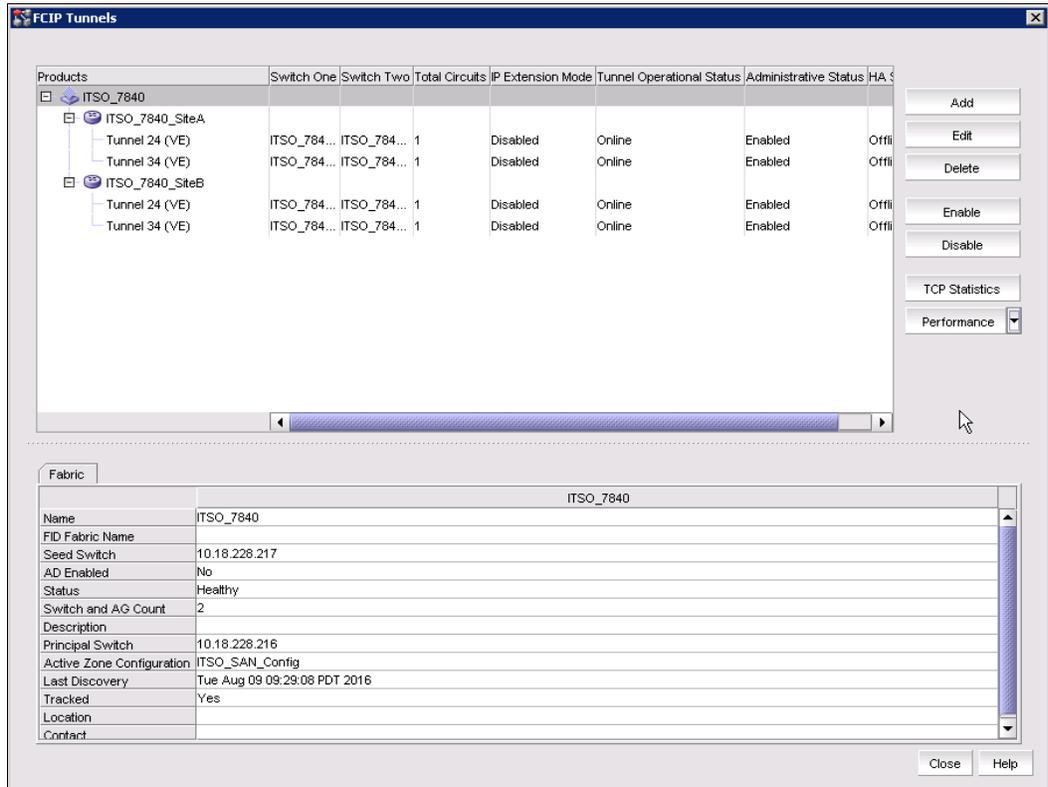

Figure 4-6 FCIP tunnel creation window
- Select the extension switch for which you want to perform the action. In this case, we select the first switch, **ITSO_7840_SiteA**, and then click **Add** to add an FCIP tunnel (Figure 4-6).